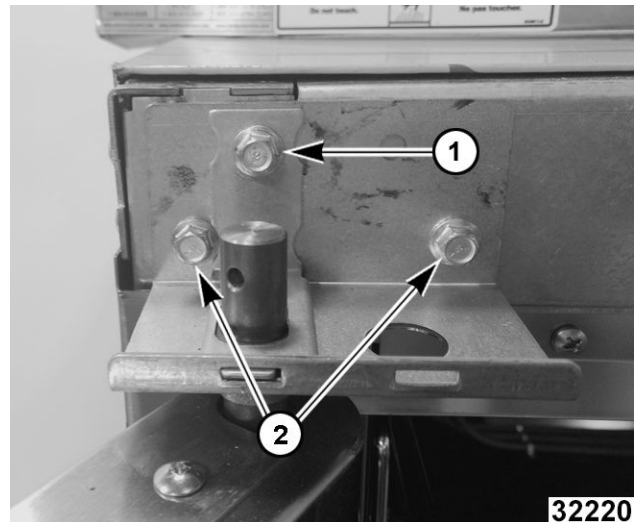

Fig. 40
3. While supporting door, remove hex bolts holding upper bearing retainer (1, Fig. 40 ) and upper shaft bracket (2, Fig. 40).